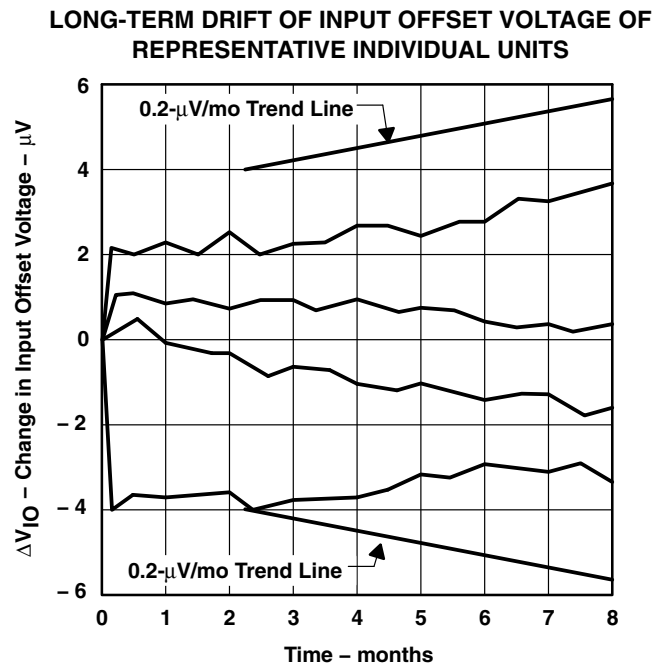

Figure 3
4. Long-term drift of input offset voltage refers to the average trend line of offset voltage versus time over extended periods after the first 30 days of operation. Excluding the initial hour of operation, changes in  $V_{IO}$  during the first 30 days are typically  $2.5\ \mu\text{V}$  (see Figure 3).